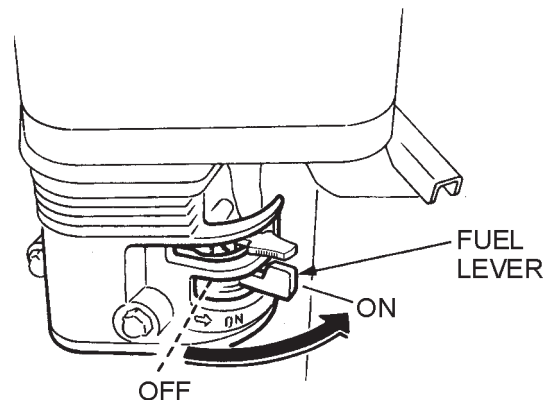

Figure 20. Engine Fuel Valve Lever
1. Place the engine **fuel valve lever** (Figure 20) to the "ON" position.